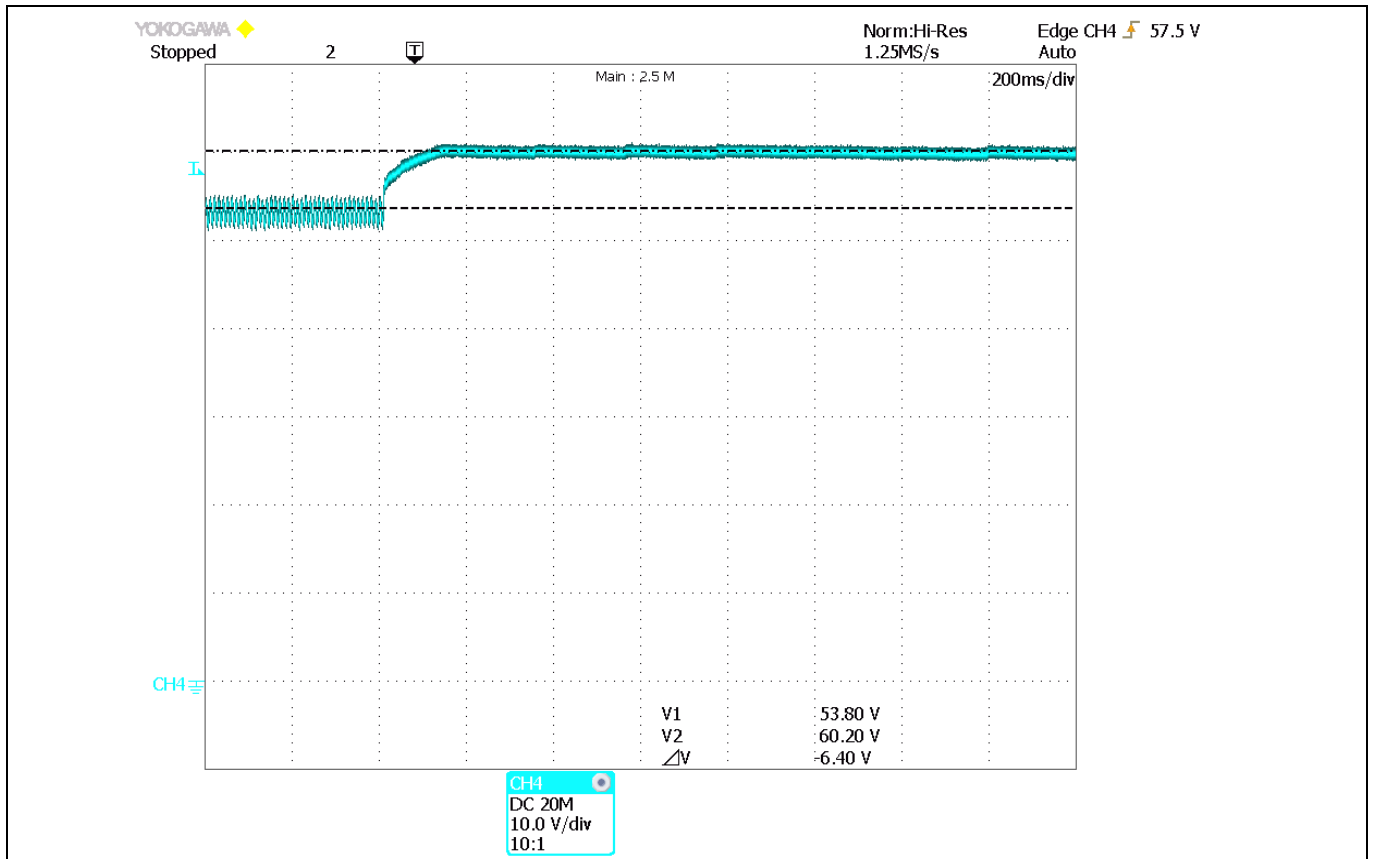
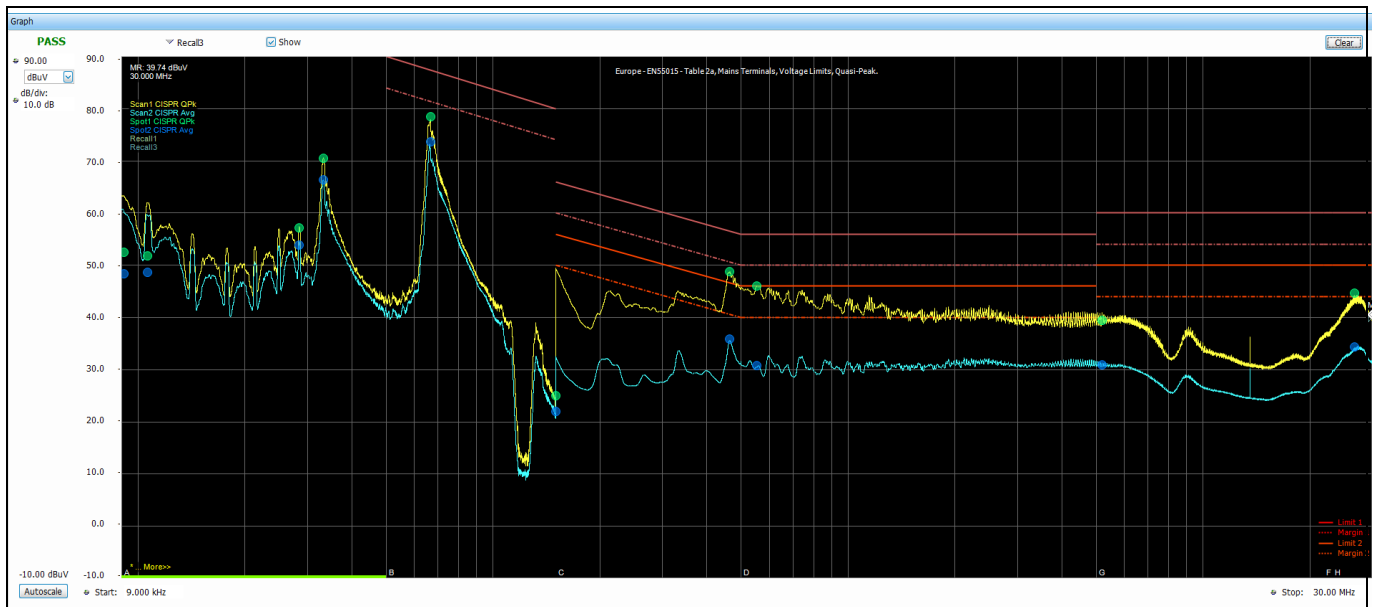

**Figure 10** ICL8810 PFC-PSR-flyback reference design in OVP mode. Blue is the output voltage, and yellow is the VS pin
**Figure 11** ICL8810 PFC-PSR-flyback reference design in burst mode. Blue is the output voltage in AC coupling mode, and yellow is the VS pin
**ICL8810** has a burst mode feature. This helps control the output voltage quite accurately down to a very low output power level, as shown in **Figure 9**. After this level, the IC moves gradually to burst mode, as shown in **Figure 11**, and finally to the OVP shown in **Figure 10**.
**Figure 10** shows overvoltage protection, when 200 ms short pulses appear on VS pin. **Figure 12** shows the dynamic transition from full to zero, when the power stage moves into the overvoltage protection.